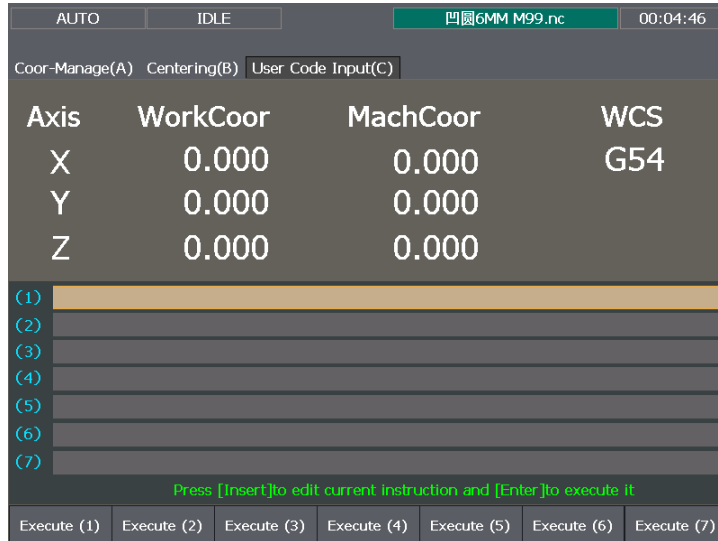

Fig. 3-74 User Code Input Screen
[User Code Input (C)] screen under [Advanced] function section is as shown in Fig. 3-74.